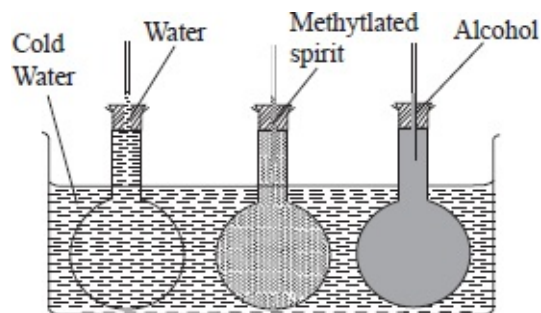

Fig. 6.14: Liquids before heating the water
- Place the flasks in a water bath in such a way that they are all covered to the same depth, as shown in figure 6.14 Ensure that the liquid levels in all the tubes are the same.